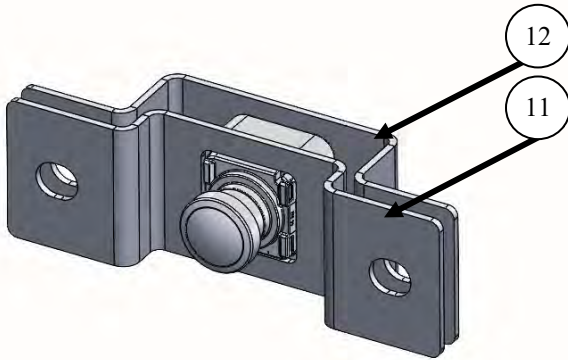
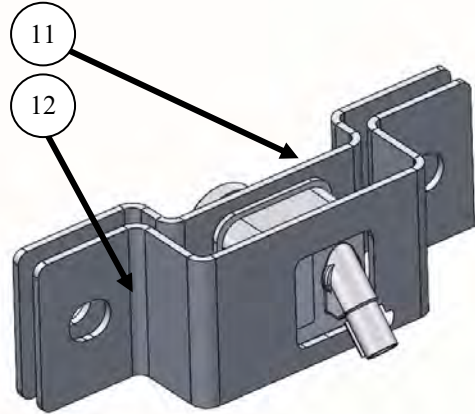

Figure 9
Figure 10
- Align the inner camera holder (item 11) to the front side of the camera and align the outer camera holder (item 12) on the back side of the camera, so that everything fits correctly. See **Figures 9&10**. On the backside of the camera. The camera holder assembly should look like **Figure 10**.